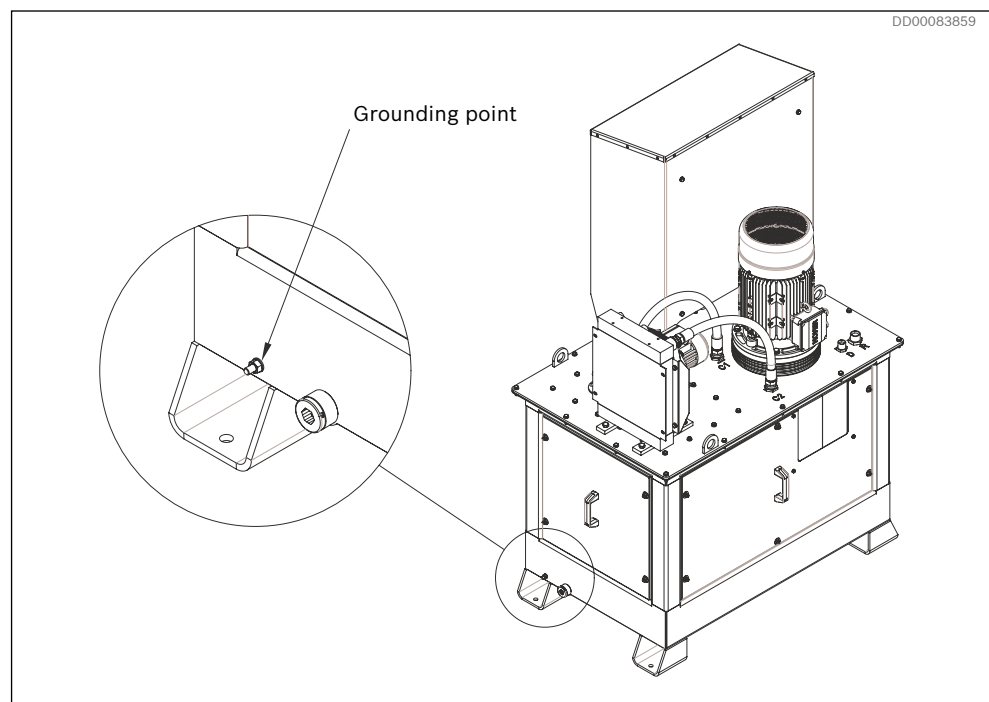

Fig. 15: Grounding point
- Check grounding of frame (grounding point on side of frame, see *Fig. 15*)